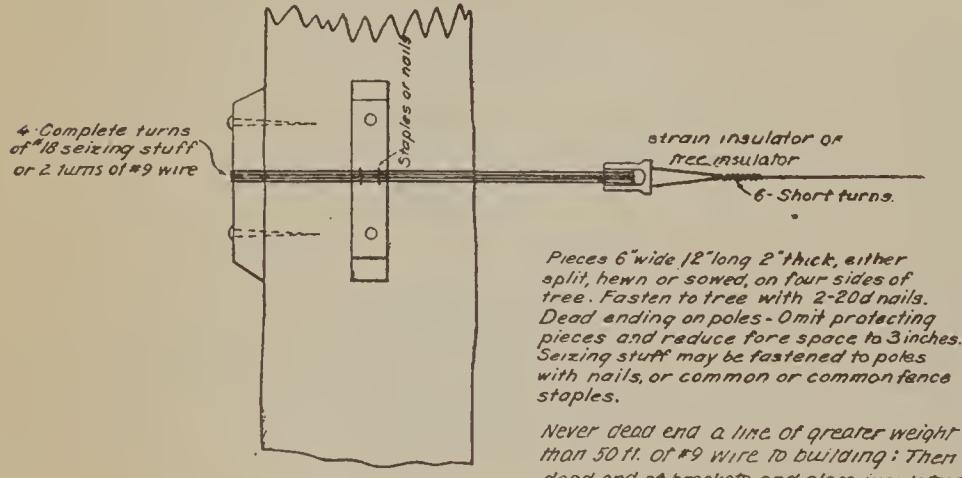

FIG. 19.—Approved method for making solid ties for tree-line construction in connection with use of hangers illustrated in Figures 9 and 10
6. Where snowfall is not a danger factor, across arroyas, canyons, rivers, and choppy topography, especially where timber is scarce (special anchors required for long spans; see fig. 19)
(1) Solid ties: Where line is run at an abrupt angle up or down a steep slope for distances in excess of a quarter mile.
(2) Dead ends: (a) At railroad, highway, and electric transmission line crossings (see fig. 19); (b) on each side of spans exceeding maximum specified on page 17; (c) at terminals of line; (d) at top of abrupt slopes where the strain might be too great for an ordinary solid tie.